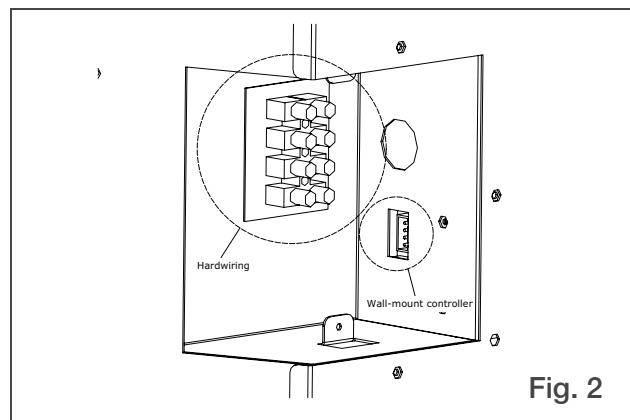

Fig. 2
- With the appliance in the rough-in framing, insert far enough into the enclosure to locate the supply wires to the terminal block. (**Fig.2**).